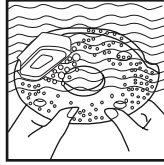

Fig. 3
3. Remove the blower foam pad and clean with soapy water. Let it dry (Fig. 3)